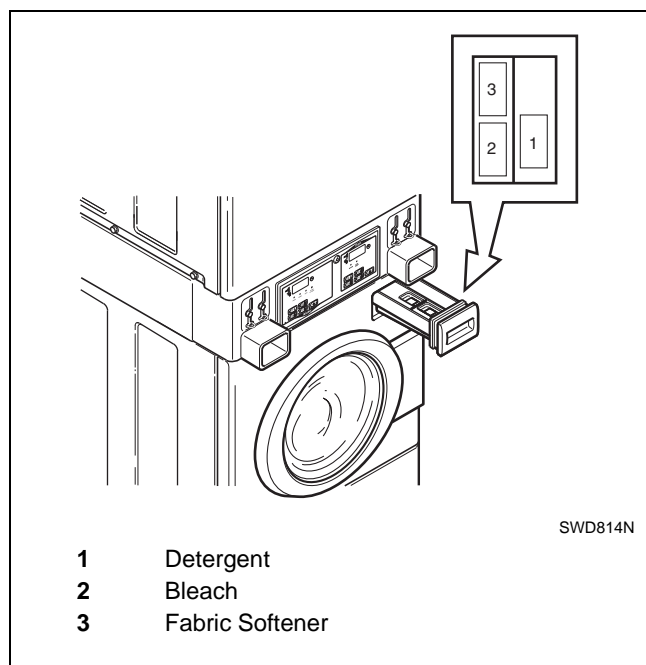

Figure 23
Open dispenser drawer. Measure and add low sudsing, high efficiency (HE) detergent (1), bleach (2) and fabric softener (3) to the dispenser drawer. Refer to *Figure 23*. Close dispenser drawer.